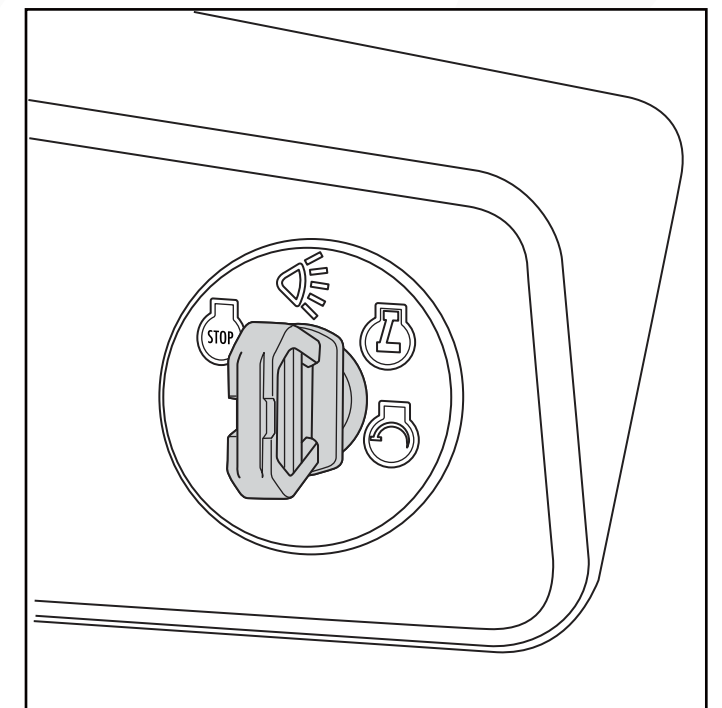

Fig. 16
1. To turn on the headlights, turn the key from the RUN position to the HEADLIGHT position. (Fig.16)